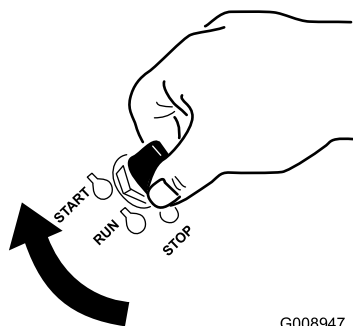

Figure 22
6. Turn the ignition key to the START position (Figure 22).